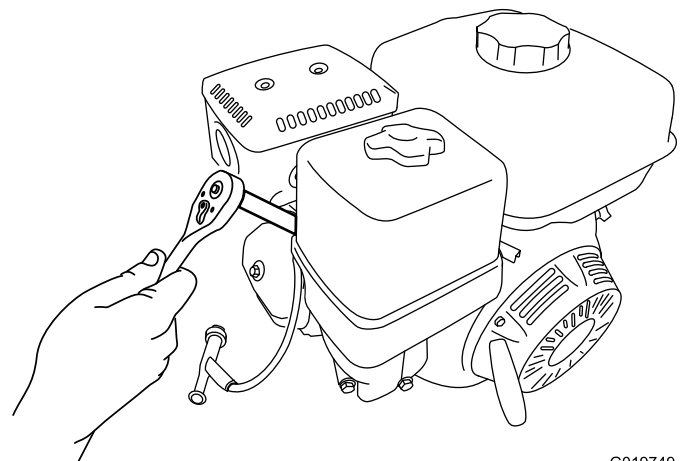

Figure 30
5. Rotate the spark plug counterclockwise using a 13/16 inch (21 mm) spark-plug wrench to remove the plug and the sealing washer (Figure 30).
- Rotate spark plug clockwise using a 13/16 inch (21 mm) spark-plug wrench until the plug and sealing washer are seated (Figure 30).